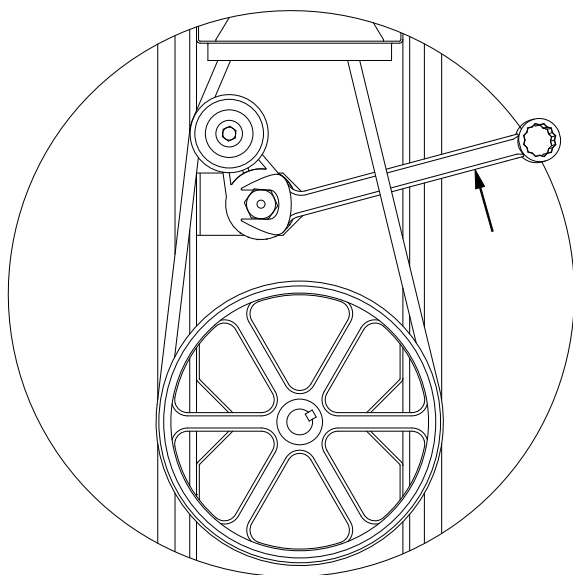
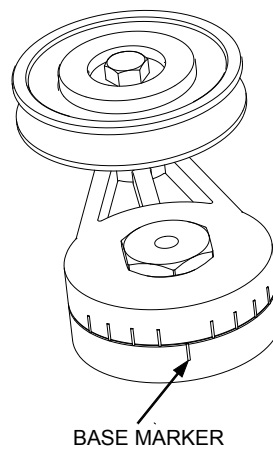
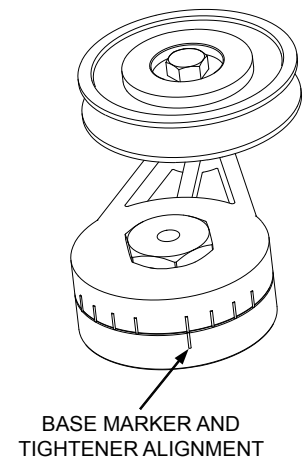

FIGURE 6
FIGURE 7
FIGURE 8
2. Place a wrench on the hex nut in the belt tightener body as shown in Figure 6 and a wrench on the belt tightener mounting fastener.
3. Using the wrench on the belt tightener body, apply pressure in the appropriate direction (see Figure 6) until the belt is properly tensioned. Note: The belt tightener body has marks on it as shown in Figure 7 representing degrees. The proper alignment after tightening the mounting bolt is shown in Figure 8.